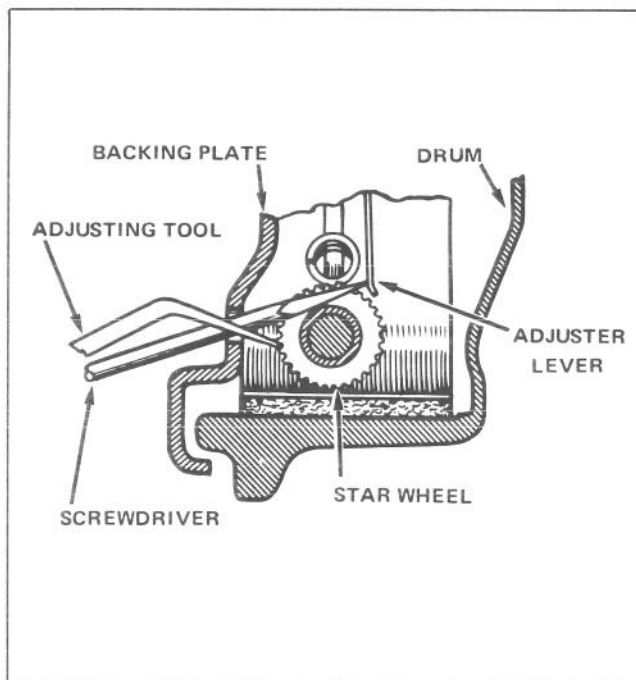

Figure 20. Adjusting Star Wheel
2. Remove wheel and drum. If shoes interfere with drum removal, hold adjuster lever away from star wheel as shown in Figure 20 while backing off adjustment.
Back off star wheel until drum is free of drag (20 to 30 notches). Use a screwdriver as shown in Figure 20 to hold adjuster lever away from star wheel while backing off adjustment.